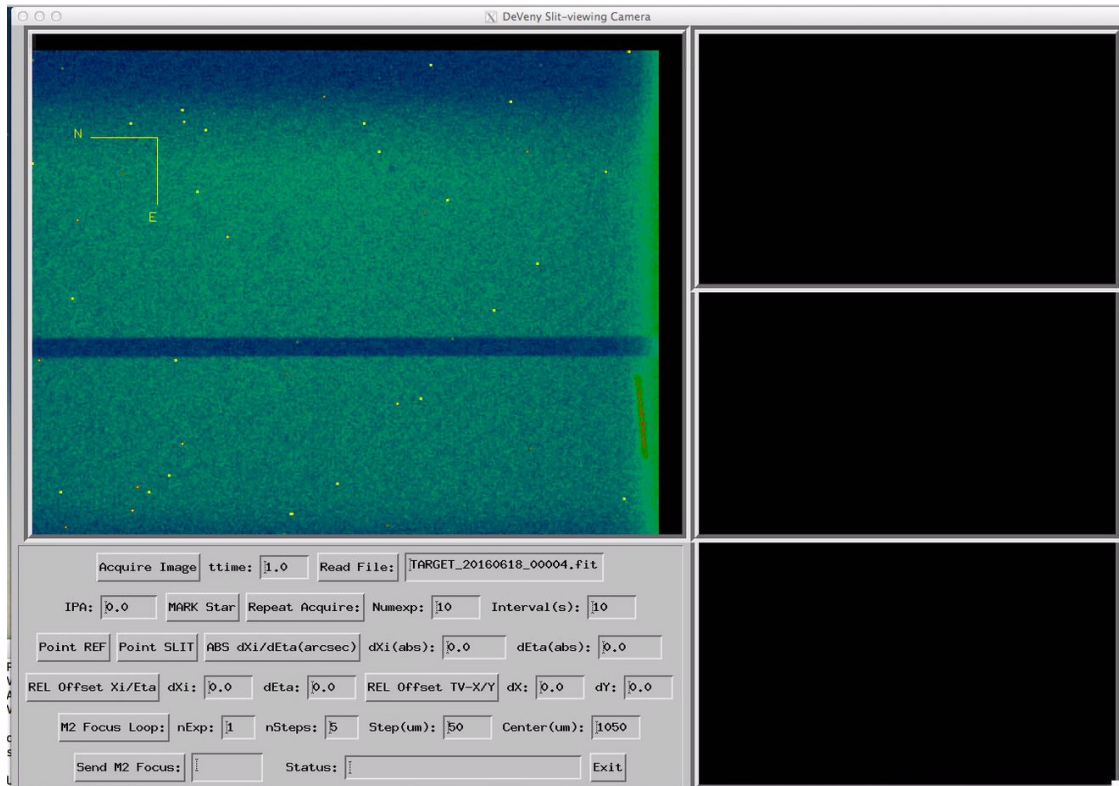

Figure 16. IDL slitview control GUI.
- iv. At the idl prompt: type slitviewg'. this launches the slit viewing camera top level control GUI (Figure 16).